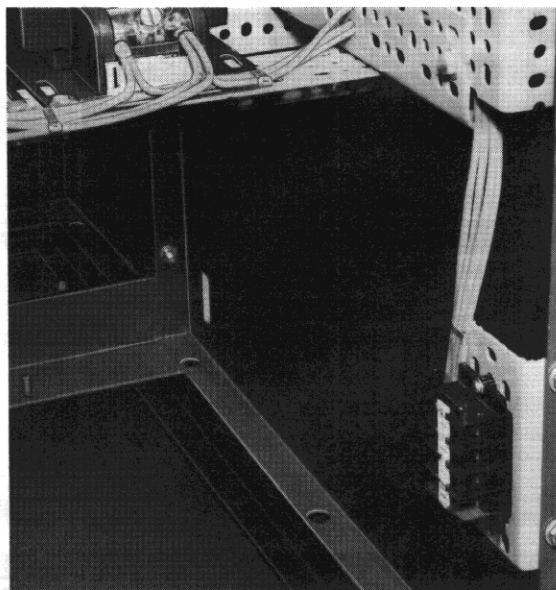

Fig. 8
f. If low-voltage wiring runs across a shipping split matched numbered terminal blocks are supplied on either side of the split and suitable wire is furnished for connections, Fig. 8.